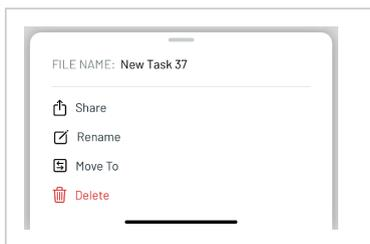

Figure 13: Share, rename, move or delete measurement.
- These tasks can be deleted immediately by swiping left. Via the three dots  the tasks can be shared , renamed , moved into a folder  or deleted  (Figure 13).